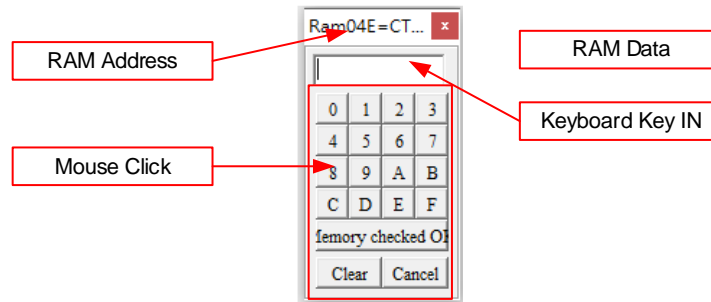

Figure 22
2. Point the cursor to the selected revised lines, double click the mouse's left key, a window will pop up as Figure 22 shown. Users can key in on keyboard or press the button by mouse.